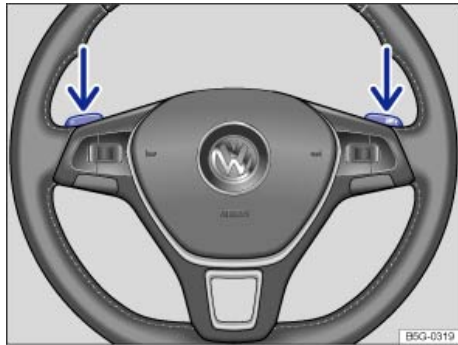

Fig. 137 Steering wheel with Tiptronic shift paddles (if equipped).
- The paddles ⇒ fig. 137 (arrows) work when the selector lever is in the Tiptronic position or when the selector lever is in Drive or Sport Drive (**D/S**). You do not have to move the selector lever over to the right into the Tiptronic position.